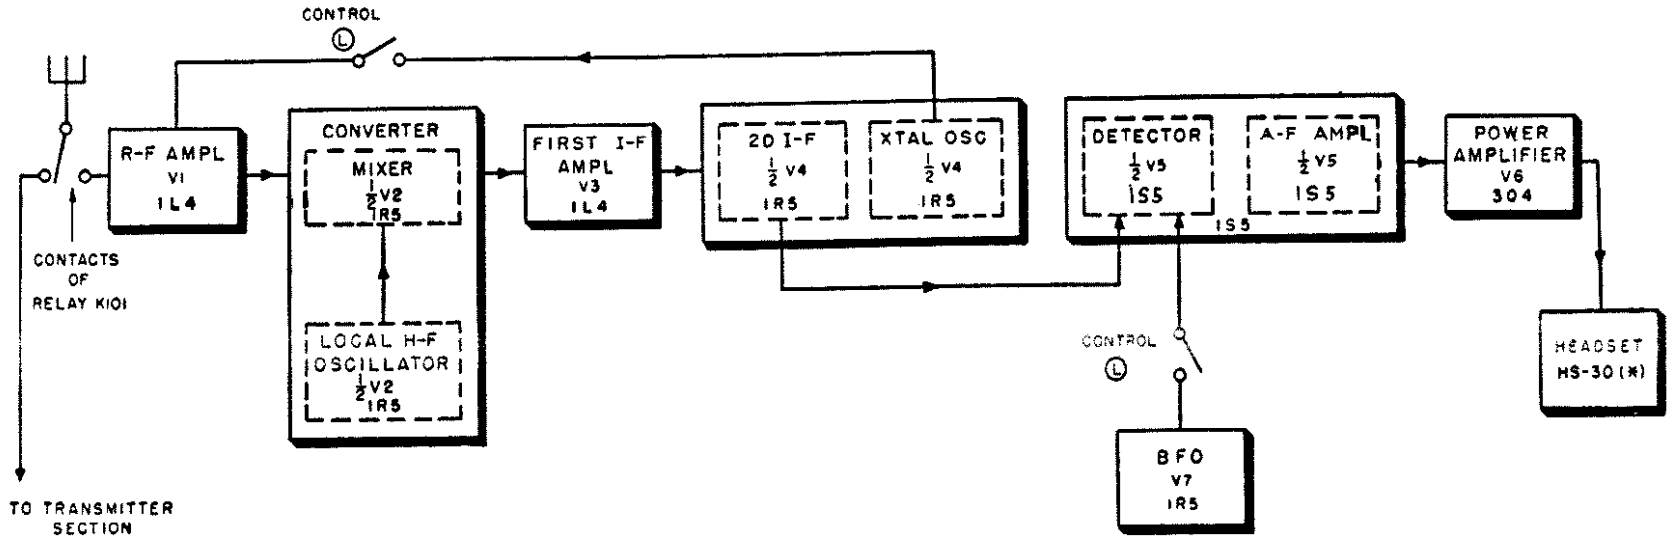

Figure 55. Block diagram of receiver section of receiver-transmitter RT-77/GRC-9-GY.
78. Block Diagram (fig. 55)
a. GENERAL. The receiver section of Receiver-Transmitter RT-77/GRC-9-GY consists of a 7-tube superheterodyne receiver designed for the reception of c-w and a-m signals over a frequency range of from 2.0 to 12.0 mc. Three bands are used to cover this range; band 1 covers from 6.6 to 12.0 mc, band 2 covers from 3.6 to 6.6 mc, and band 3 covers from 2.0 to 3.6 mc. The block diagram (fig. 55) shows the signal path through the receiver. A complete schematic diagram is shown in figure 125. The same antenna is used for transmitting and receiving; switching between the two sections is accomplished by a relay in the transmitter, which is operated by the key or press-to-talk switch on the microphone.